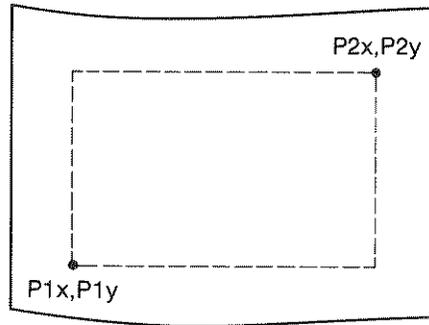

Fig. 7.2. P1 and P2 coordinates.
3. Know how to select the scaling points on your plotter. The scaling points (referred to as the P1 and P2 plotter coordinates) define the lower-left and upper-right corners of the plot (see Figure 7.2). These coordinates define the size of the plot. Table 7.1 shows the scaling points for several Hewlett-Packard plotters.